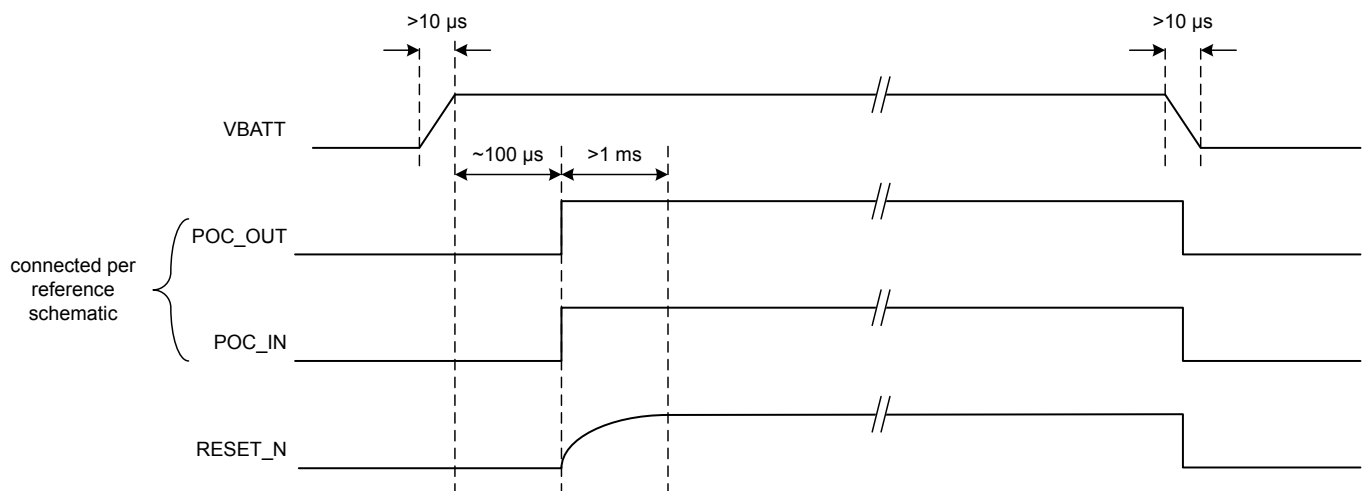

Figure 7.1. Power Up Sequence
- **RESET_N:** RESET_N is an open-drain signal which will be pulled low during a chip reset. It is released after POC_IN is high. RESET_N should be connected to an RC circuit to fulfill the timing requirements shown in Figure 7.1 Power Up Sequence on page 97.
Figure 7.1 Power Up Sequence on page 97 shows the signal timing when POC_OUT, POC_IN, and RESET_N are connected per the recommended schematic. The POC_IN-to-RESET_N delay will occur when POC_IN transitions from low to high. VBATT in the figure refers to the connection of UULP_VBATT_1 and UULP_VBATT_2 (connected together in the schematic).